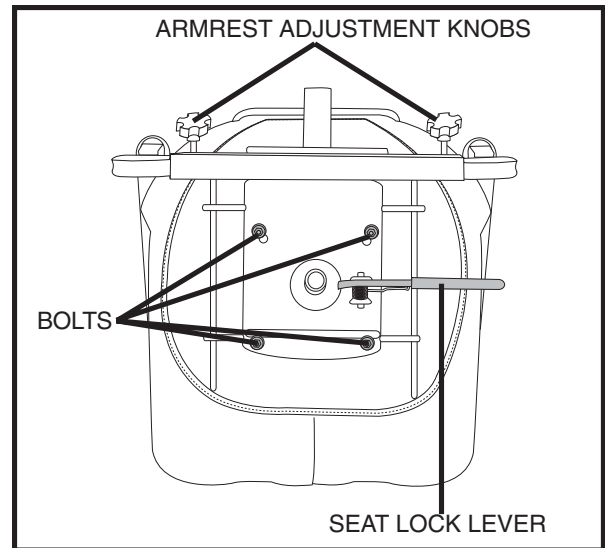

Figure 10. Seat Adjustments
1. Pull up on the seat lock lever to unlock the seat. See figure 10.
2. Remove the four bolts that fasten the seat to the seat platform. See figure 10.
1. Loosen the armrest adjustment knobs at the back of the seat frame. See figure 10.